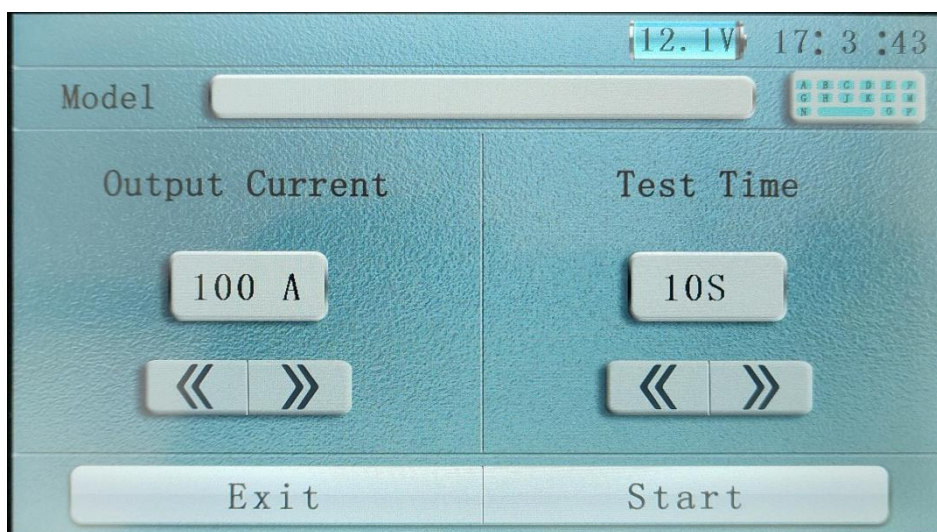

Figure 2
2. Press Data Test to enter the following interface, as shown in Figure 2